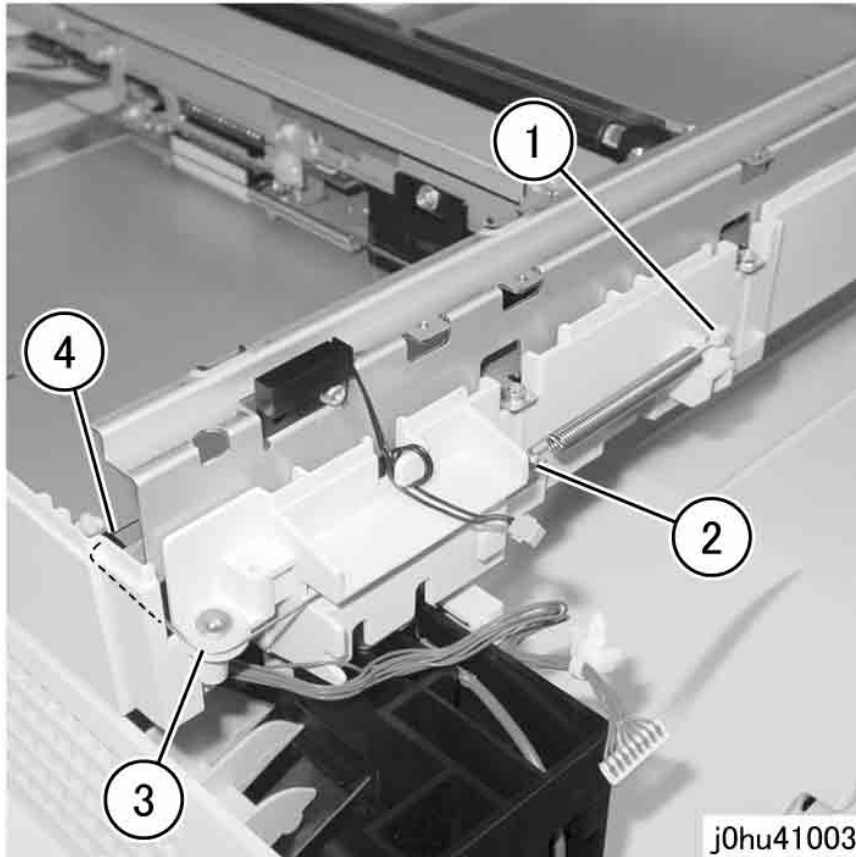

Figure 3 Disconnect Silver Carriage Cable
5. While maintaining tension on the Carriage Cable (silver) at the front left side, disconnect it (Figure 3).